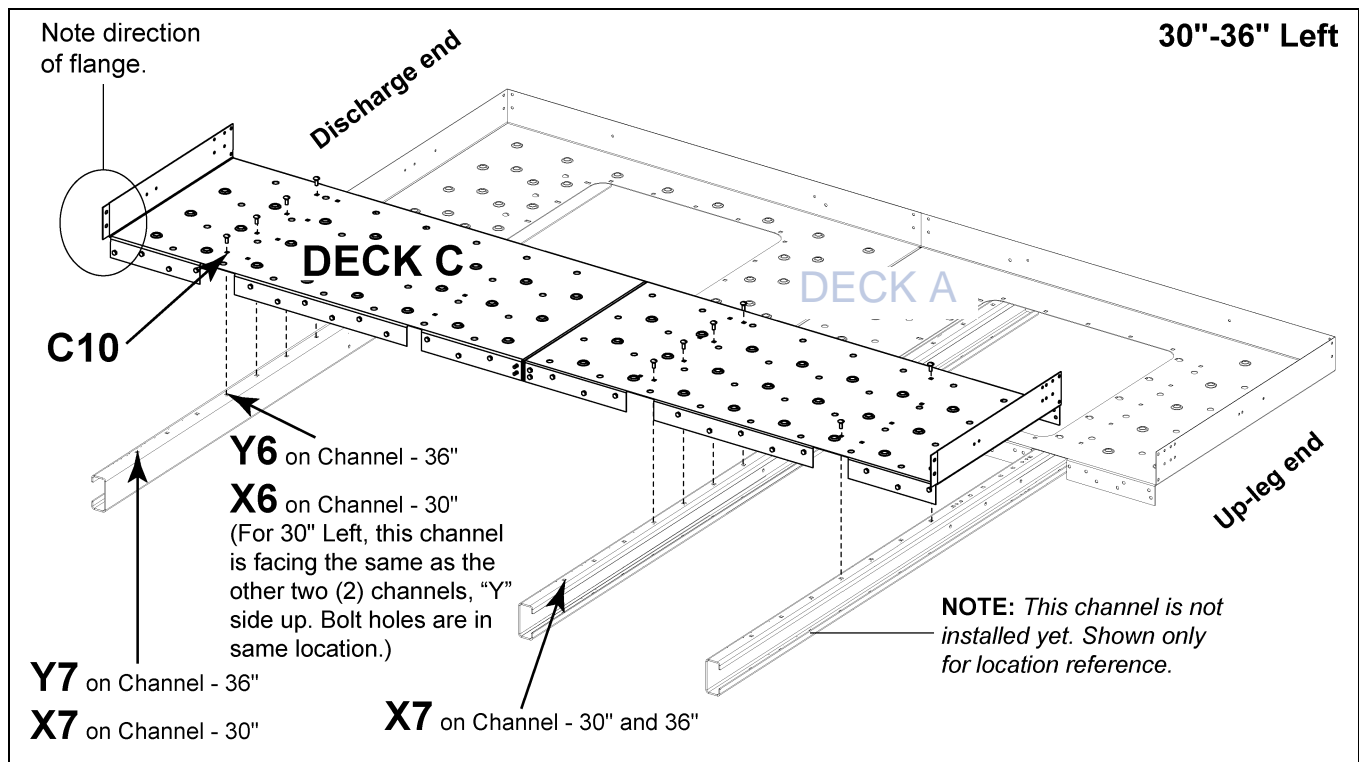
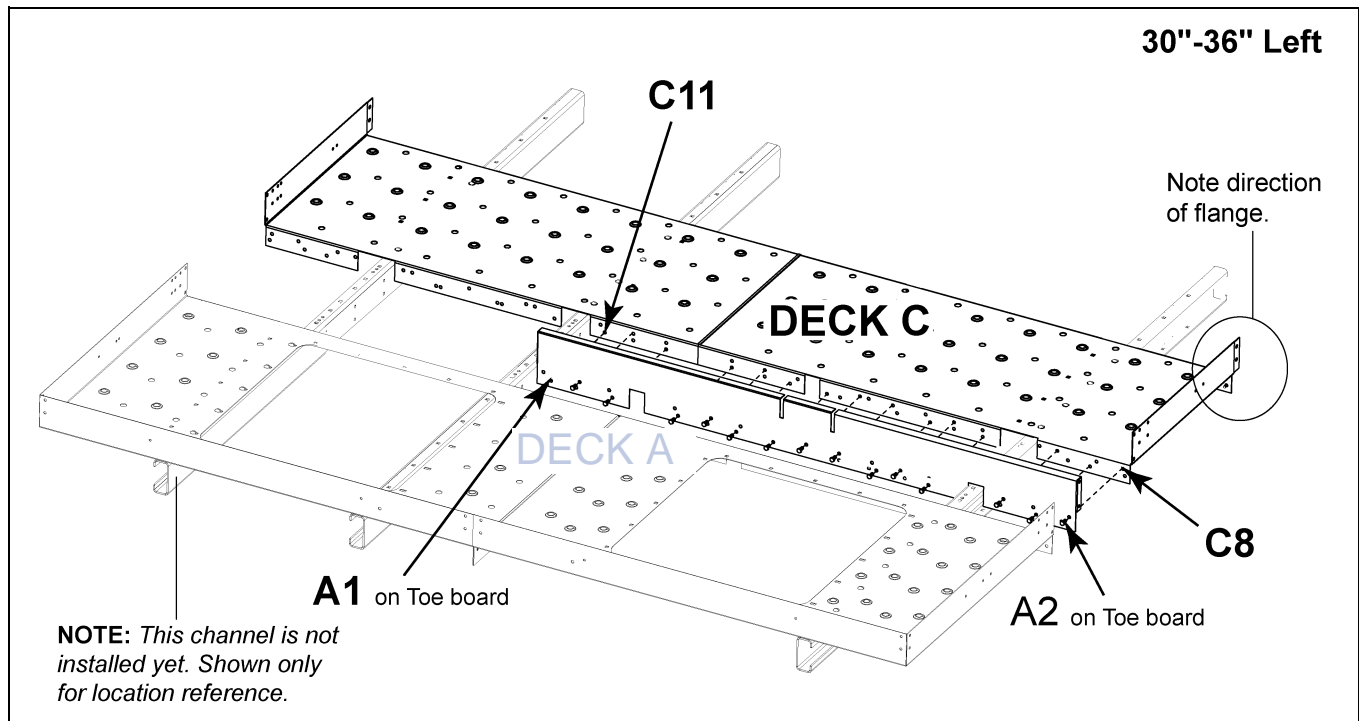

Figure 9J Deck C to Cross Deck Support Channels
Figure 9K Underside View of Deck C to Toe Board
1. Locate the pre-assembled Deck C. This deck consists of two (2) planks.
3. Make sure the extended kick plate flange of Deck C is away from the lower head assembly. *(See Figure 9J and Figure 9K on Page 70.)*